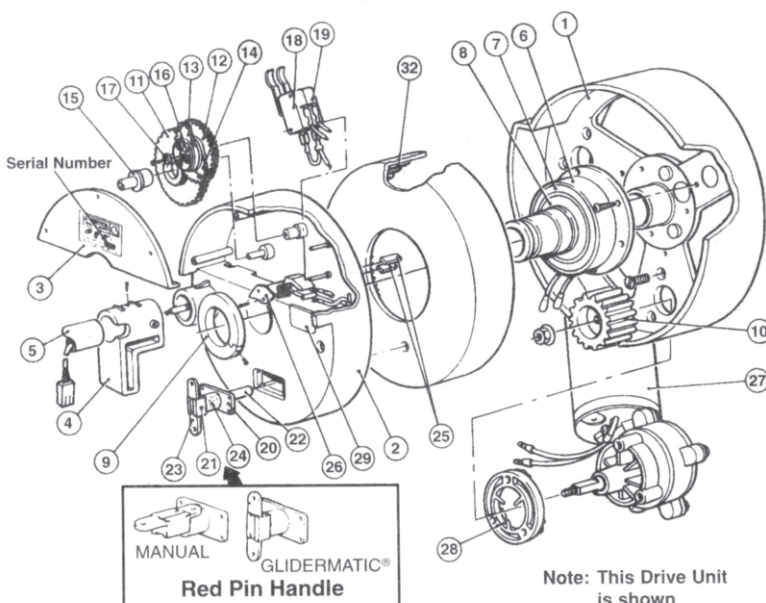

Fig. 1
- v) Engage Glidermatic by switching manual release pin to Automatic refer (Fig. 1).